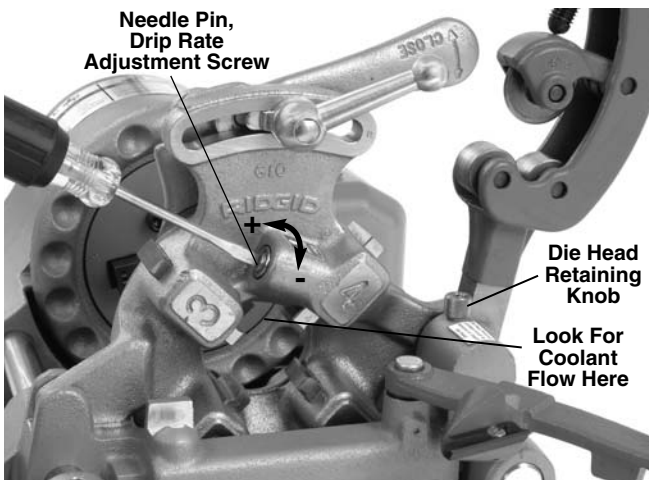

Figure 7 – Adjusting Coolant Drip Rate
- Move the die head down into the threading position. Depress and hold the foot switch and look for coolant flow between die 3 and 4 on the die head (See Figure 7). It may take up to 10 seconds for the coolant to start flowing if the die head has been off the machine or sat for an extended time. Coolant should be dripping at a rate of at least 1 drop per second. Too high a drip rate wastes coolant, while too low a drip rate can cause die chipping, poor quality thread and high thread temperatures.
- To adjust the coolant drip rate, while depressing the foot switch, use a flat blade screwdriver to turn the needle pin on the die head (see Figure 7). Clockwise needle pin rotation decreases drip rate, while counterclockwise rotation increases drip rate
- With machine unplugged, rotate the die head retaining knob (Figure 7) on the carriage counterclockwise to unlock the die head post. Remove the die head from the carriage.